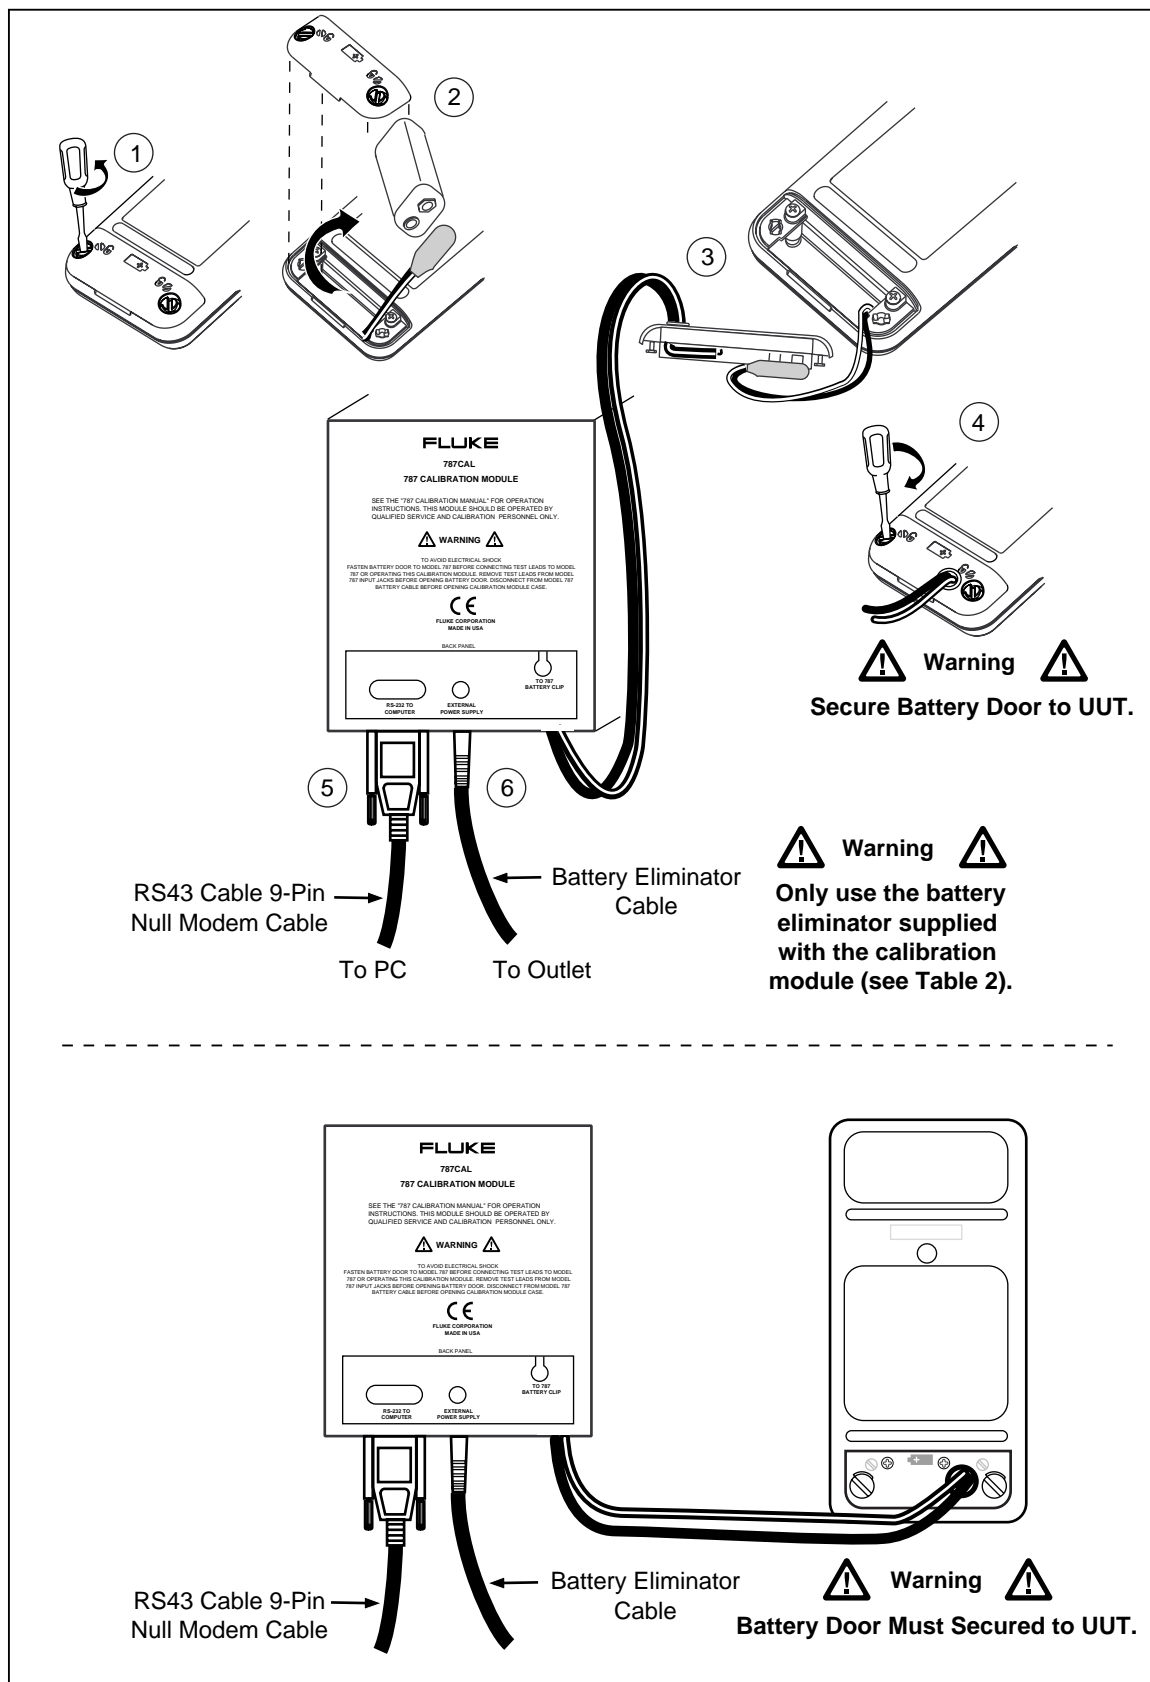

Figure 13. Connecting the 787 Calibration Module to the UUT
5. Connect Calibration Module to the appropriate communication port on the PC, using an RS-232 9-pin, null modem cable. (See Figure 13.)